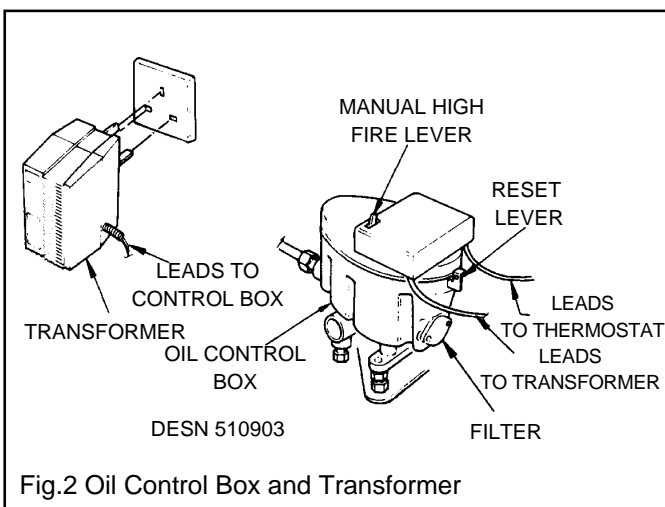

Fig.2 Oil Control Box and Transformer
Without an electric supply to the control box, the burner will operate continuously on 'Low Fire'. In the event of a power failure, the burner can be switched to 'High Fire' by simply moving the manual high fire lever on the top of the control box Fig.2 from **RIGHT** to **LEFT** and engaging it back in the slot in the cover.
Lift the reset lever on the oil control box Fig.2 until it clicks. It is not necessary to hold it up. This will cut off the oil supply to the burner which will gradually die out. If the cooker is being left out of use for a period turn off the valves on the oil
3. Press down the reset lever on the oil control box Fig.2 until it clicks. It is not necessary to hold it down.